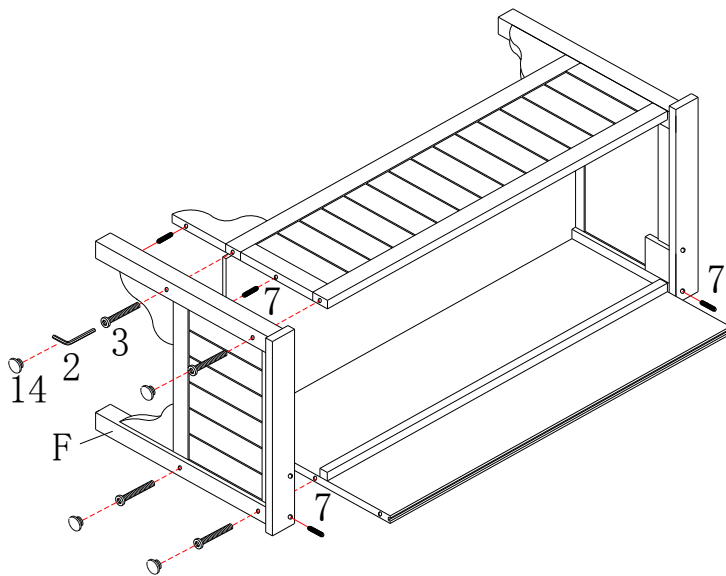

Figure 4
Connect Right Storage Frame (F) to unit from Figure 3 using Bolts (3) and Dowel (7) as shown in Figure 4.
Mount Left Frame (C) on Dowels (7) attached to unit from Figure 4.